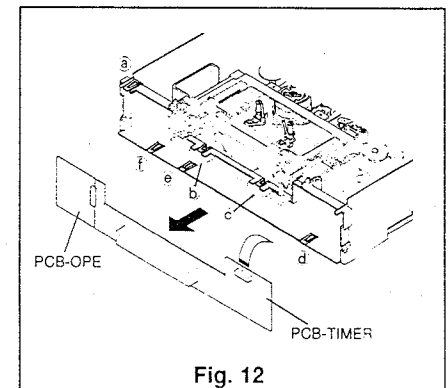

Fig. 12
- 3 Remove six catches (Ⓐ ~ Ⓕ) shown in Fig. 12 to remove the PCB-TIMER OPE.